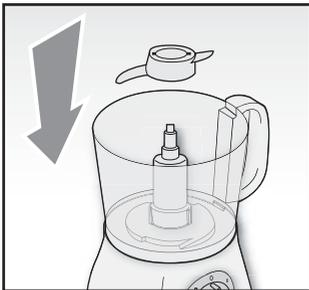

Fig. 5a
Install the dedicated accessory (F) on the blade support (D). The fissures on the center of the blade must be positioned upwards and coincide with the notches on the blade support. Press the blade on the blade support (Fig. 5a).